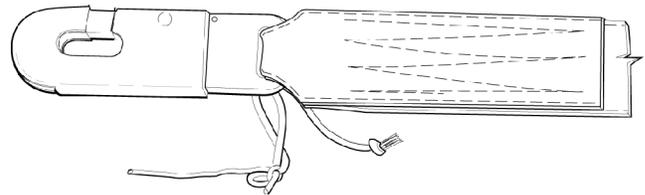

Figure 2. Folded Webbing
(1) Reeve one end of the webbing thru the snap parachute assembly P/N MS70120.
(2) Fold webbing per Figure 2.
(3) Sew length wise with Size 6 thread, using 4 point cross-stitch pattern, 5-in. long (Figure 2). (QA)